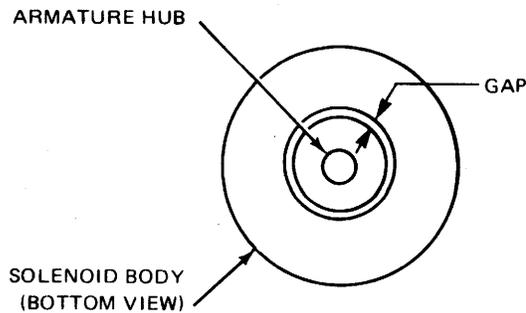

Figure 6-60. Solenoid Radial Gap Adjustment.
- g. Observing bottom of solenoid, apply a radial (all directions) force to armature hub; adjust gap between solenoid hub and body for maximum clearance on all sides without binding by tapping solenoid body to shift its position on mounting bracket relative to oilite bushing (see figure 6-60).